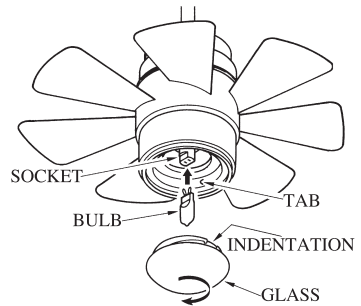

FIG.11
- Position the indentations in the outer rim of the glass shade so that they line up with the tabs in the inside surface of the fan light fixture rim. Carefully lift the glass shade up inside the light fixture as far as it will go. Rotate the shade in a clockwise (to the right direction) until it is held tightly in place by the three tabs (see fig.11)